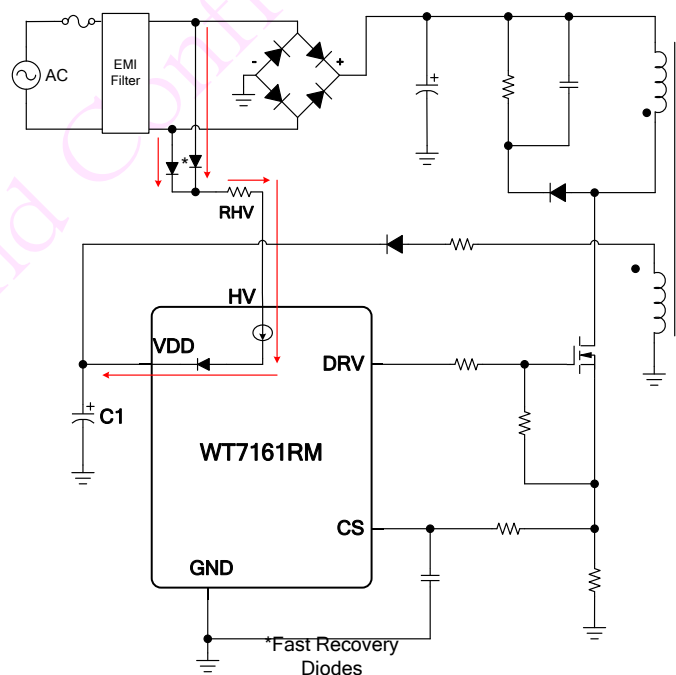

Fig. 5.1
The WT7161RM is implemented with a high-voltage startup circuit for fast start-up functions and reduce power dissipations, as shown in Fig. 5.1. At startup, the high-voltage current source sinks current from AC Line and Neutral to provide startup current and charge the capacitor C1 which connected to VDD. At the startup transient, the HV current will charge VDD capacitor until this VDD voltage reaches the UVLO (ON) threshold. As VDD trips UVLO (OFF), HV pin will recharge VDD capacitor till VDD voltage rise back to UVLO (ON) again. The resistor RHV connected in series with HV pin is recommended in the range between 100Ω and 510Ω. It's suggested to choose fast reverse recovery type of HV diodes. Besides, it is recommended that the VDD capacitor C1 connected with VDD pin is in the range from 22μF to 47μF. It is important to note that it is not allowed to connect HV pin to any dc voltage. (e.g.: directly to bulk capacitor)